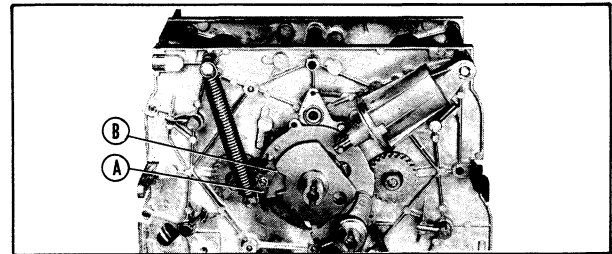

Figure 9. Motor "ON" Position.
1. Motor "ON" Position (Figure 9)